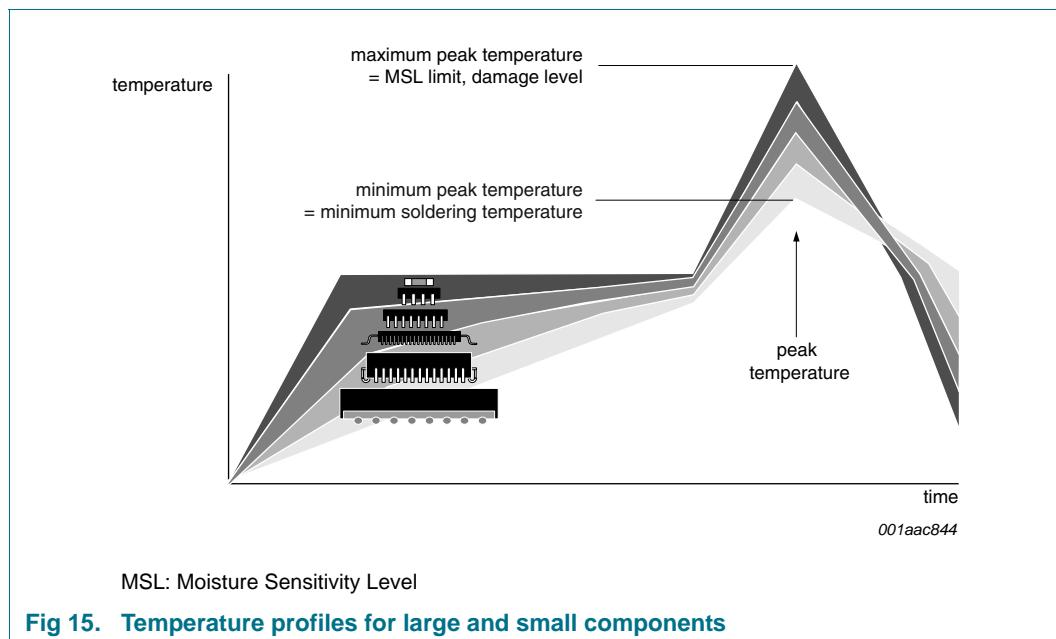

Fig 15. Temperature profiles for large and small components
- Lead-free versus SnPb soldering; note that a lead-free reflow process usually leads to higher minimum peak temperatures (see Figure 15) than a SnPb process, thus reducing the process window
Studies have shown that small packages reach higher temperatures during reflow soldering, see Figure 15.
Modifications:	<ul style="list-style-type: none"> • Section 2 "Features", 7th bullet item: changed from "200 V MM per JESD22-A115" to "150 V MM per JESD22-A115" • Table 1 "Quick reference data": removed symbol/parameter "C_{io}, input/output capacitance" • Table 12 "Static characteristics": <ul style="list-style-type: none"> – C_{io} (A port) Typ value changed from "3.0 pF" to "5.0 pF" – C_{io} (A port) Max value changed from "4.0 pF" to "-" – C_{io} (B port) Typ value changed from "2.0 pF" to "4.0 pF" – C_{io} (B port) Max value changed from "3.0 pF" to "-" • Table 13 "Dynamic characteristics": <ul style="list-style-type: none"> – (sub-section V_{ref} = 0.73 V; V_{TT} = 1.1 V) deleted t_{PHZ} specification – (sub-section V_{ref} = 0.73 V; V_{TT} = 1.1 V) deleted t_{PZH} specification – (sub-section V_{ref} = 0.76 V; V_{TT} = 1.2 V) deleted t_{PHZ} specification – (sub-section V_{ref} = 0.76 V; V_{TT} = 1.2 V) deleted t_{PZH} specification • Figure 8 title changed from "EN1 to 5A (I/O) or EN2 to 6A (I/O) or EN1 to nAO or EN2 to nAO" to "EN2 to 5A (I/O) or 6A (I/O), or EN1 to nAO, or EN2 to nAO" • Deleted (old) Figure 11 "EN2 to 9AO" • Deleted (old) Figure 15 "Load circuit for 9AO OFF-state to LOW and LOW to OFF-state"